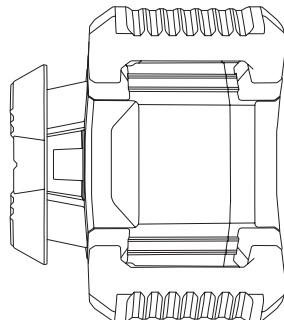

Fig.3
- Place the laser level onto its back with the control panel facing upwards and the 5/8"-11 thread for vertical operation facing down. Ensure the laser is placed onto a reasonably level surface (Fig.3)